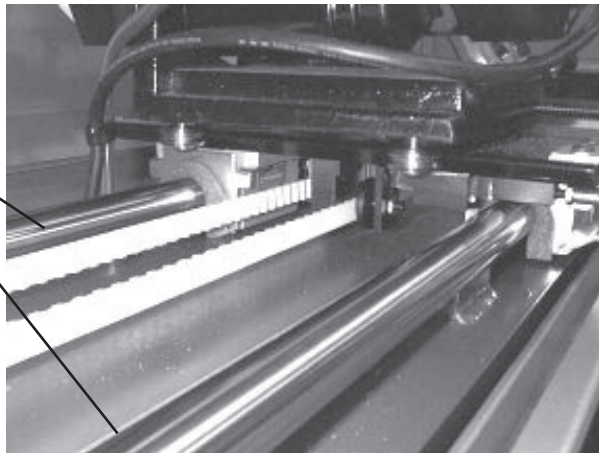

FIG. 3
STEP 1--Thoroughly clean all both shafts. See FIG 3.